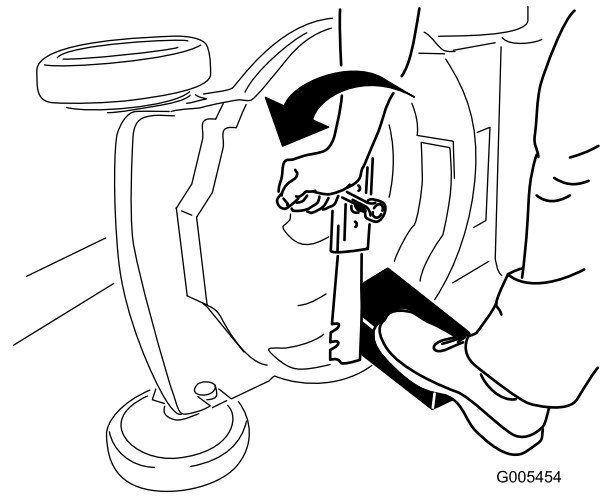

Figure 30
3. Use a block of wood to hold the blade steady (Figure 30).
4. Remove the blade, saving all mounting hardware (Figure 30).